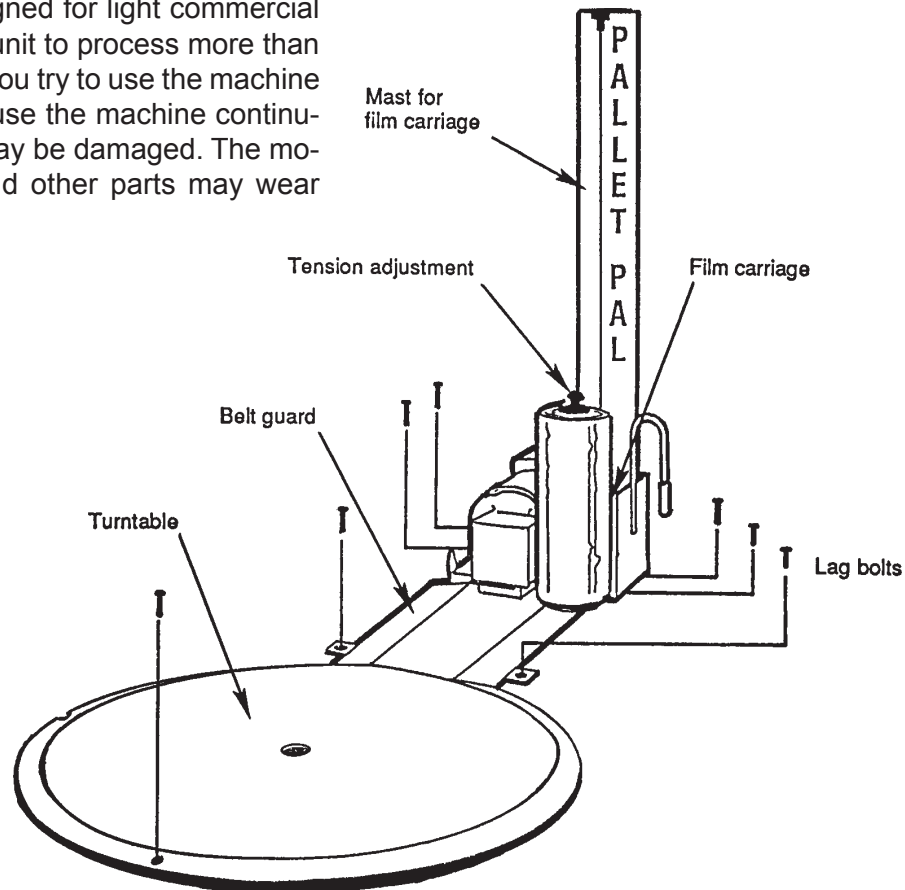

Fig. 1
Do not try to use this machine with damaged or broken pallets. Broken pallets may have boards or nails, which hang down below the main part of the pallet. As the pallet is turned, these boards or nails may catch on the belt guard. See Fig. 1. This can cause the pallet to stop turning suddenly, and this can cause the load to shift. You may be injured, and the machine may be damaged. Boards or nails may extend up to 1/8 inch below the bottom of the pallet. If necessary, you can raise the bottom of the pallet by placing spacers on the turntable. Use pieces of 2" x 4" lumber, about 36" long. Don't use small blocks to support the pallets - these may not be stable when the load begins turning.
Do not use the machine without tightening the bolts, which hold the tower and film carriage assembly. See Fig. 1. If you do not do this, the tower may fall when you try to raise the film carriage. You may be injured, or the machine may be damaged.
Once the tower has been attached, the machine must be anchored before you use it. The machine has holes for 7 lag bolts. See Fig. 1.
4. Do not try to use this machine with damaged or broken pallets. Broken pallets may have boards or nails that hang down below the main part of the pallet. As the pallet is turned, these boards or nails may catch on the belt guard. See Fig. 1. This can cause the pallet to stop turning suddenly, and this can cause the load to shift. You may be injured, and the machine may be damaged. Boards or nails may extend up to 1/8 inch below the bottom of the pallet. If necessary, you can raise the bottom of the pallet by placing spacers on the turntable. Use pieces of 2" x 4" lumber, about 36" long. Don't use small blocks to support the pallets - these may not be stable when the load begins turning.